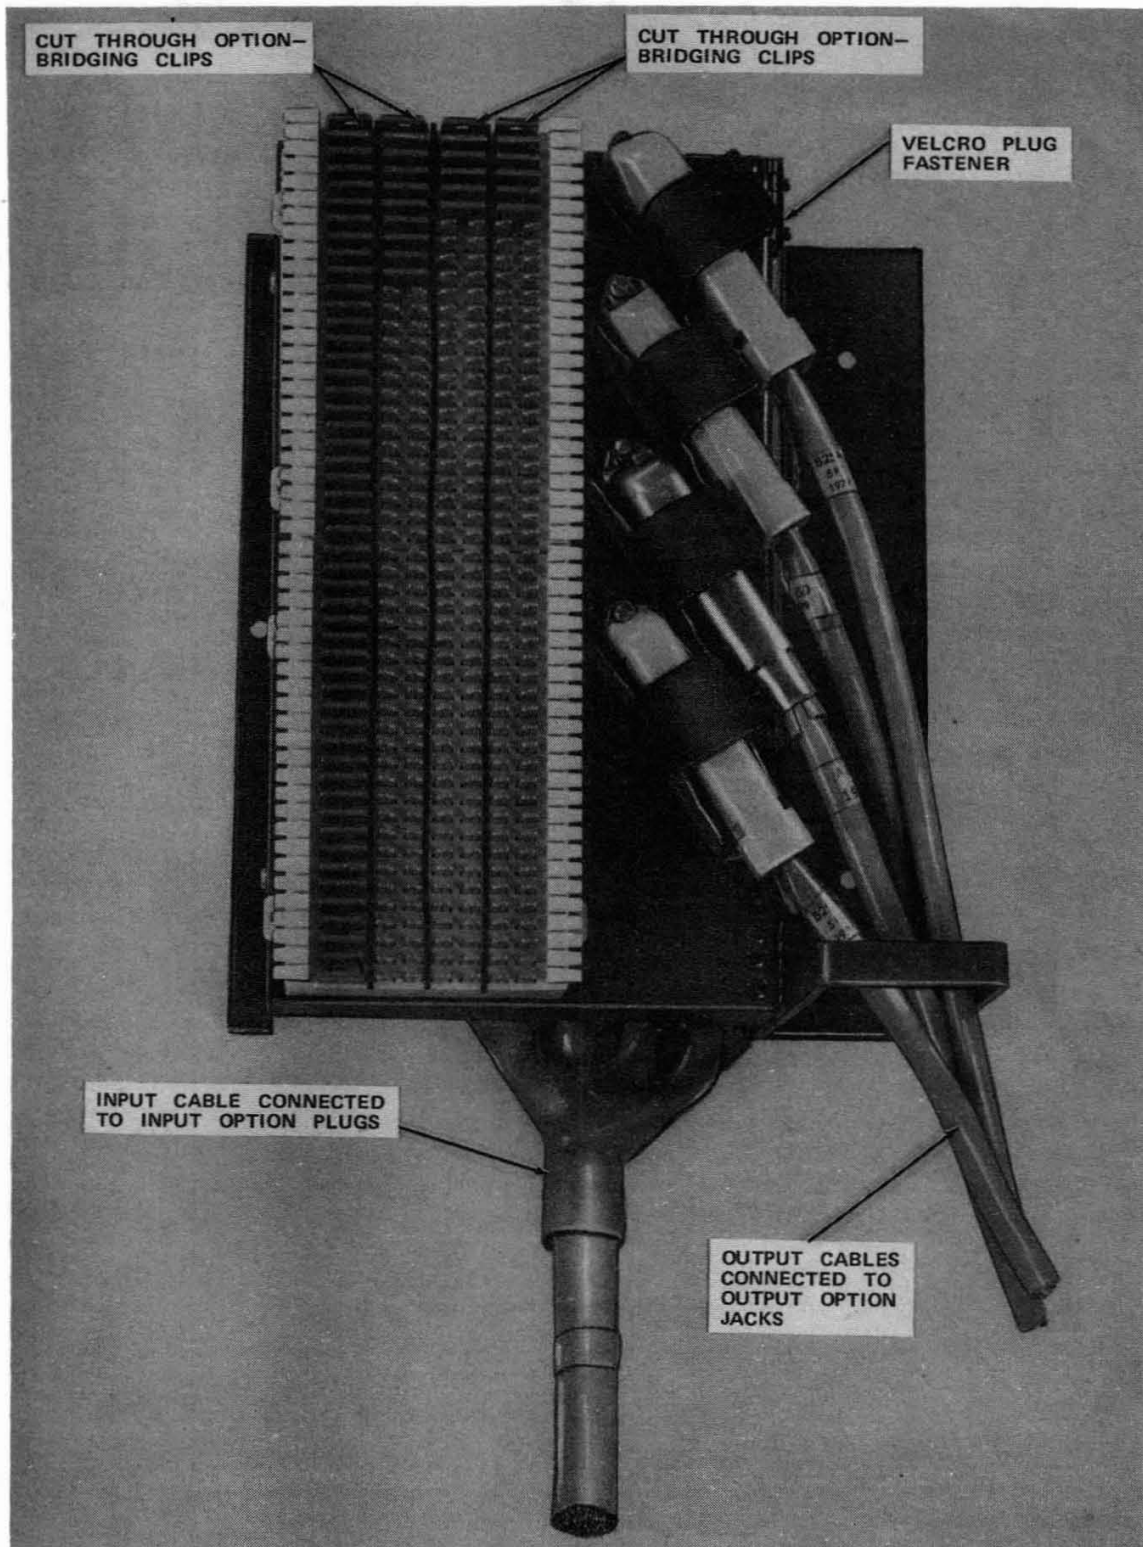

Fig. 3—700A-R-B1-100 Jack
2.06 The 700A-R-B1-100 jack (Fig. 3) is a 100-pair interface. It consists of four 50-pin ribbon connector plugs on the back of the panel for input, four 50-pin ribbon connector receptacles on the front for output, and a 100-pair 66-type connecting block for connect through option. The hinged faceplate allows the connectorized input cables to be dressed up the back of the panel and connected to the input plugs. The 66-type block is color coded in columns to corre-